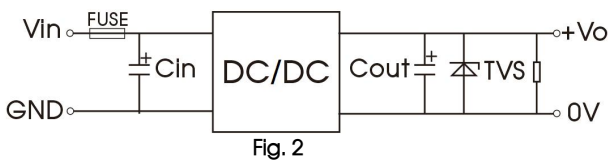

Fig. 2
- (1) During product testing and application, please follow the recommended test circuit (Figure 2); At least one electrolytic capacitor Cin (≥100μF) is guaranteed to be connected externally to suppress the possible input surge voltage;
- (2) If the input terminal of the product is connected in parallel with a circuit with large transient energy (such as a parallel motor drive circuit), the input voltage of the product may be pulled down. At this time, pay attention to the fluctuation of the input voltage of the product, and it is recommended to appropriately increase the capacitance of the electrolytic capacitor Cin at the input terminal to ensure the stability of the input terminal voltage and avoid the situation where the input voltage is lower than the under-voltage protection point and cause the product to restart repeatedly;
- (3) If the output end of the product is inductive load (such as relay and motor), it is recommended to increase the output capacitance Cout capacitance within the capacitive load specification and add TVS tubes to filter out voltage spikes;
- (4) If the input and output ripple needs to be further reduced, Cin and Cout capacity of external capacitors can be appropriately increased or external capacitors with small series equivalent impedance can be selected. Cout capacity of external capacitors cannot be greater than the maximum capacitive load of products.